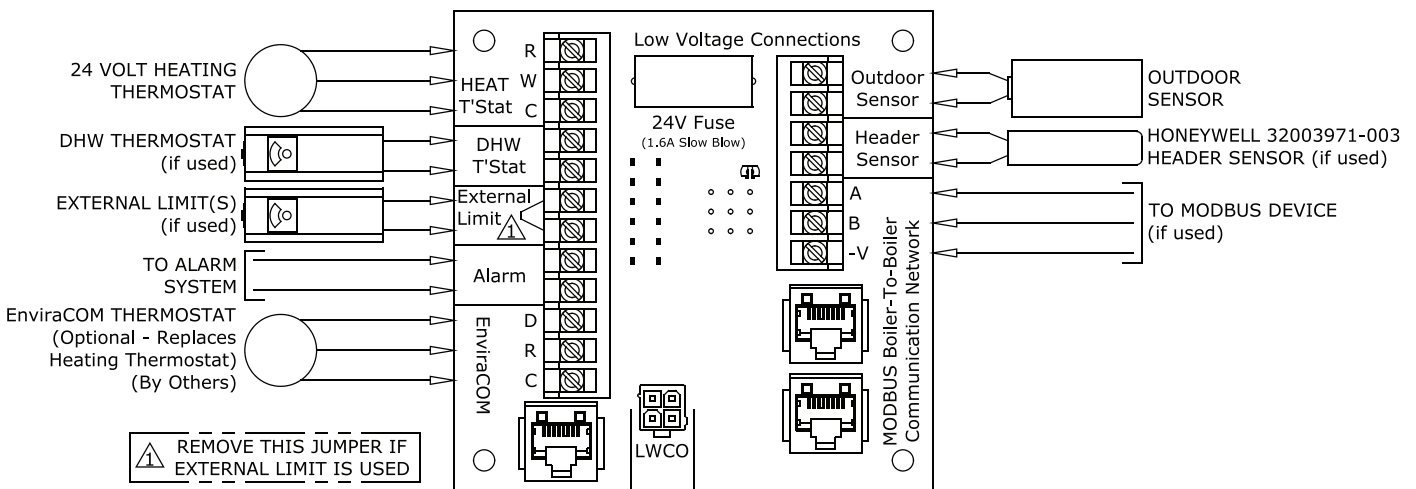

Figure 10.3: Low Voltage PCB Terminal Connections
This boiler is equipped with a listed high water temperature limit function. This limit provides boiler shutdown in the event the boiler water temperature exceeds the set point of the limit control. Certain Local Codes require an additional water temperature limit. If necessary, install an additional water temperature limit such as a Honeywell L4006 Aquastat. Wire as indicated in Figure 10.3.
- 2) Low Voltage Connections – Low voltage field connections on the low voltage PCB are shown in Figure 10.3 and are listed from top to bottom:
- DHW Stat - 24VAC domestic hot water thermostat (1)
- DHW Stat - 24VAC domestic hot water thermostat (2)
- External Limit - Field supplied low voltage safety limit contacts (1)
- External Limit - Field supplied low voltage safety limit contacts (2)
- Alarm Contact (1)
- Alarm Contact (2)
- EnviraCOM Device (D)